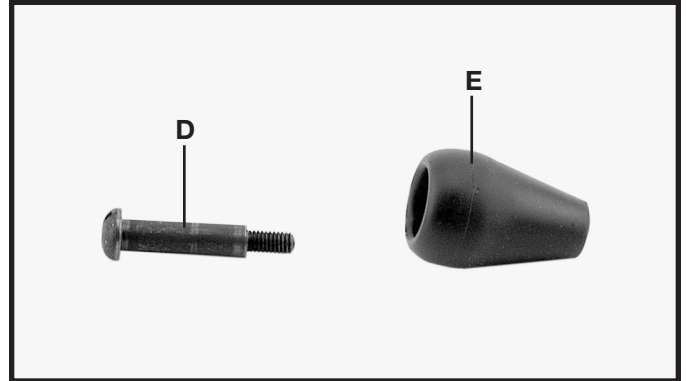
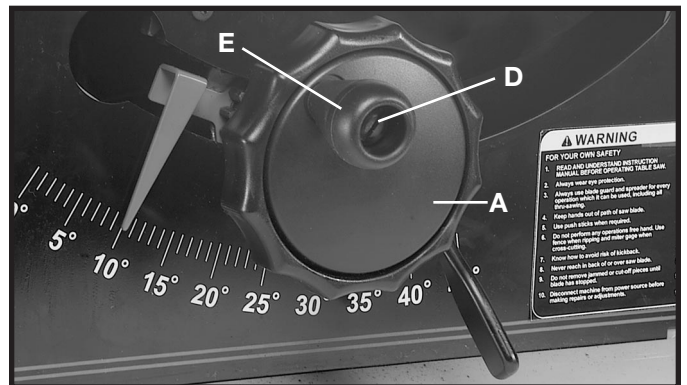

Fig. 4
Fig. 5
Insert the 1-3/4" screw (D) Fig. 4, through handle (E). Assemble handle (E) to handwheel (A) by threading screw (D) clockwise into handwheel as shown in Fig. 5. Handle (E) should rotate freely on screw (D).